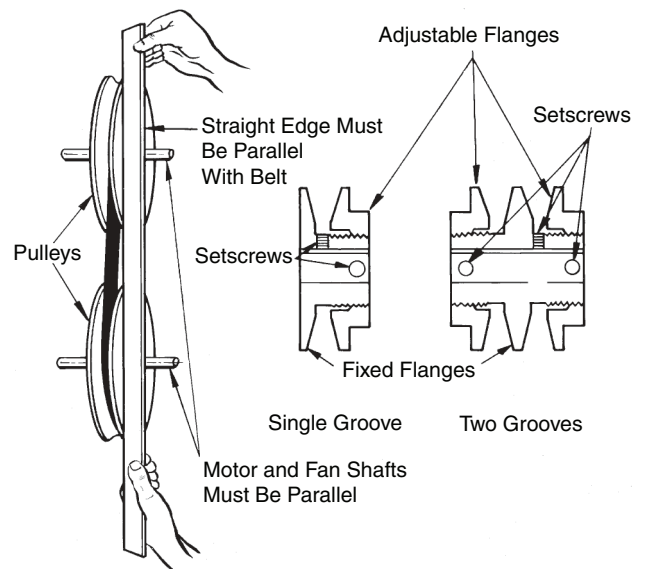

Fig. 27 — Fan Pulley Adjustments
3. Use the methods shown in Fig. 27 to check proper pulley alignment.
2. Loosen setscrew in moveable flange of pulley. Screw moveable flange toward fixed flange to increase the fan speed and away from fixed flange to reduce speed. Before tightening setscrew, make certain that setscrew is over nearest flat surface of pulley hub. (See Fig. 27.)